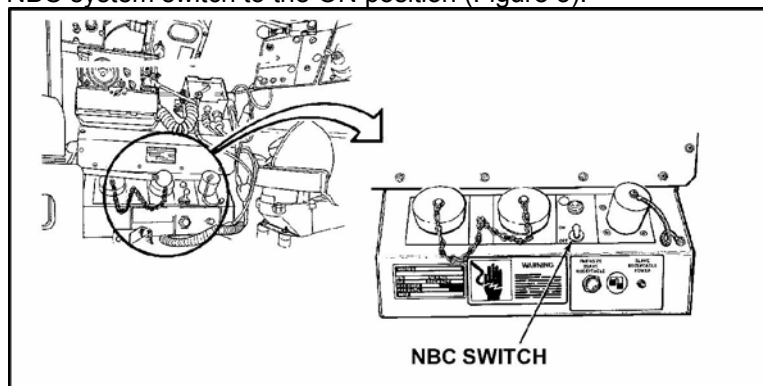

Figure 3. NBC system switch.
- c. Move the NBC system switch to the ON position (Figure 3).